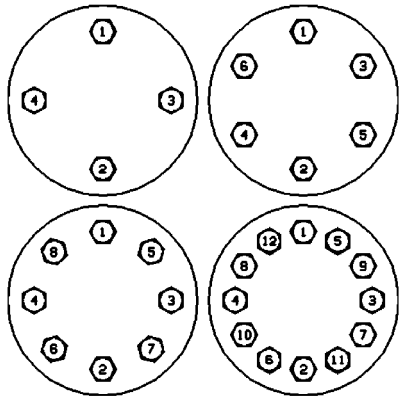

Figure 22: Torque Sequence
3. Tighten the body nuts (B014) evenly by applying the torque in the increments and the sequences as defined in Table 6 and Figure 22.